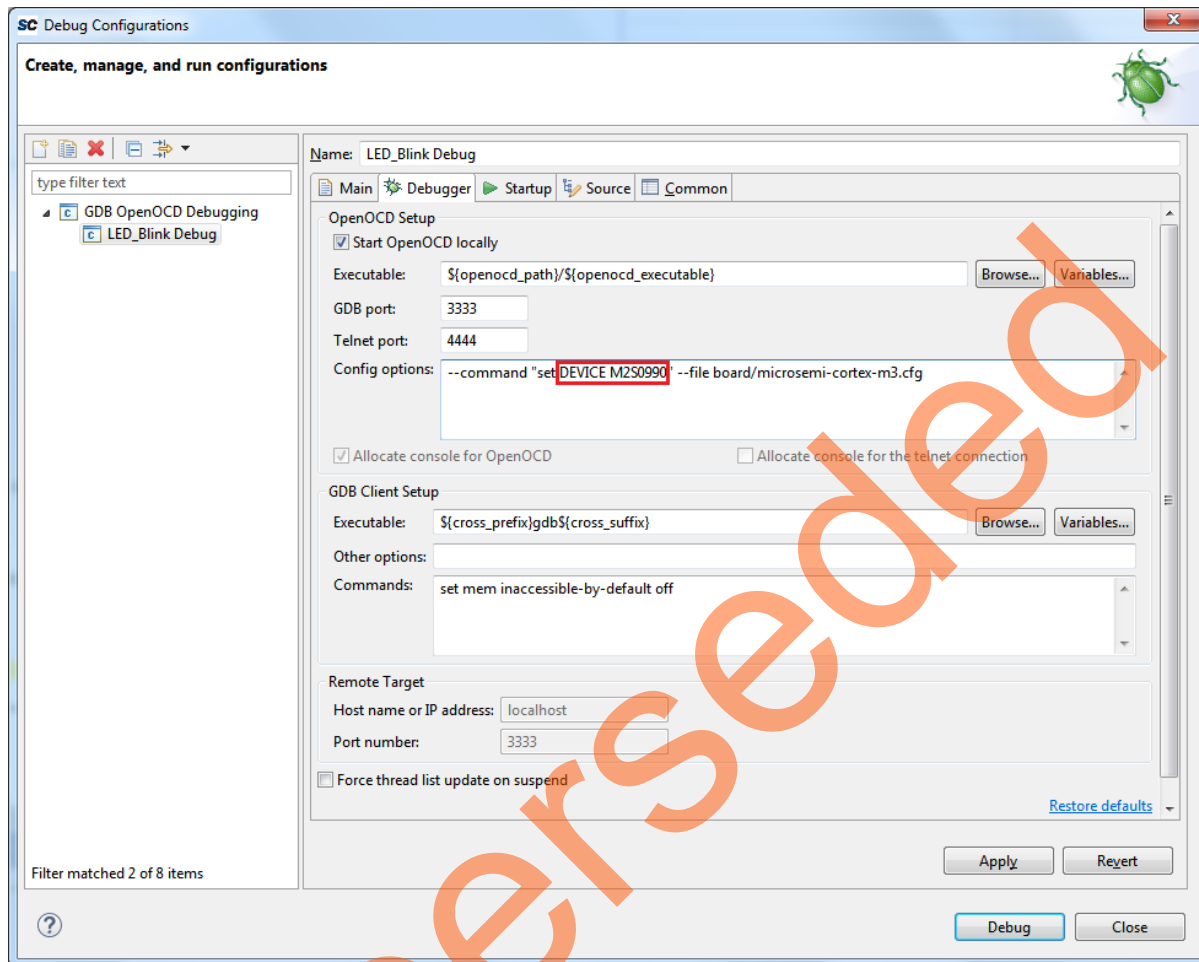

Figure 42 • Debug Tab
4. Select the **Debugger** tab in the **Debug Configurations** dialog box.--command "**set DEVICE M2S090**" specifies the target device, as shown in Figure 42 on page 31. This command needs to be modified based on the target silicon.